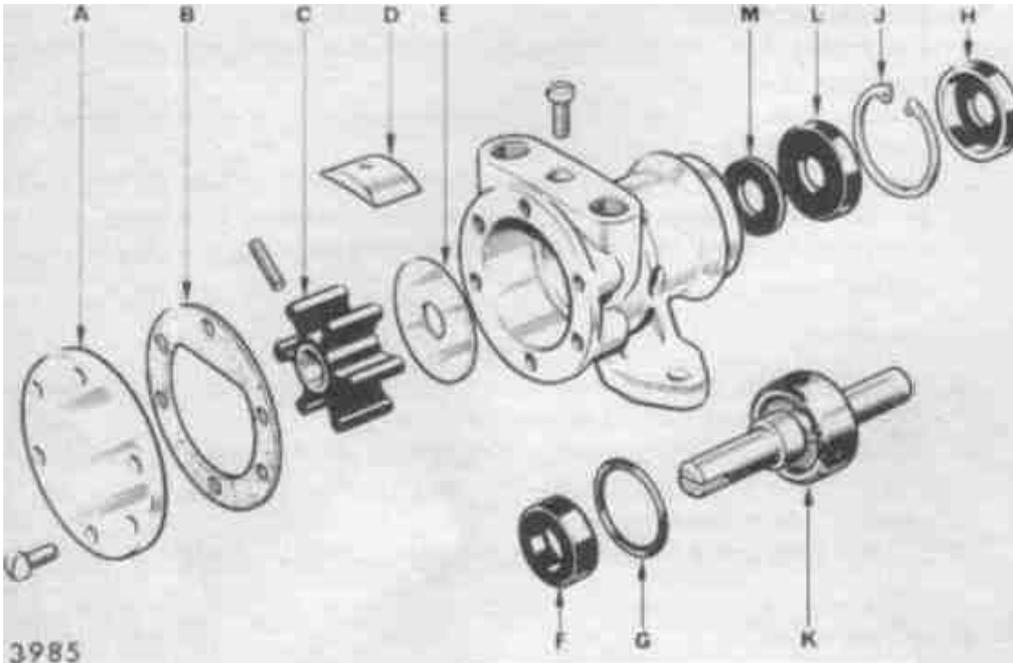

Fig. 4
20. Water pump maintenance (Fig. 4)
- (c) Remove the water pump pulley, the pump cover (A) joint (B) and the impeller (C).
- (d) Remove the cam screw and cam (D) cleaning off any sealing compound and remove the wear plate (E).
- (e) Using a hooked wire remove the seal (F) and 'O' ring (G).
- (f) Prise out the outer bearing seal (H) and remove the circlip (J).
- (g) Remove the shaft and bearing assembly (K) by applying pressure at the impeller end. Care should be taken not to damage the impeller driving slot. Careful heating of the outside of the pump body will assist in the shaft and bearing removal.
- (h) Prise out the inner bearing seal (L) and remove the water thrower (M).
21. To re-assemble water pump(Fig. 4)
- (a) Lubricate the inner bearing seal (L) with grease and press into position with the lip facing towards the impeller end.
- (b) Position the water thrower (M) in the drain area, insert the slotted end of the shaft through the thrower and press shaft and bearing into position. Careful heating of the pump body will assist assembly.
- (c) Fit the circlip (J) with the flat side facing the bearing.
- (d) Lubricate the outer bearing seal (H) with grease and press into position until flush with the pump body.
- (e) Replace the 'O' ring and seal (P) after lubricating with grease, taking care not to damage the oil seal lip. The seal should be positioned with the lip facing the impeller.
- (f) Insert the wear plate (E) with the spigot facing the impeller and in line with the cam screw.
- (g) Before replacing the cam (D), smear the top surface with sealing compound. Make sure the groove on the inner edge of the cam is located on the spigot of the wear plate. Sealing compound should also be applied to the end of the cam screw.
- (h) Replace the impeller (C) using a twisting motion until the impeller drive screw engages with the slot in the shaft.
- (i) Fit the cover plate (A) and joint (B) making sure the joint fully covers the cam. Ensure that the correct joint is used as an incorrect thickness will affect the pump performance.